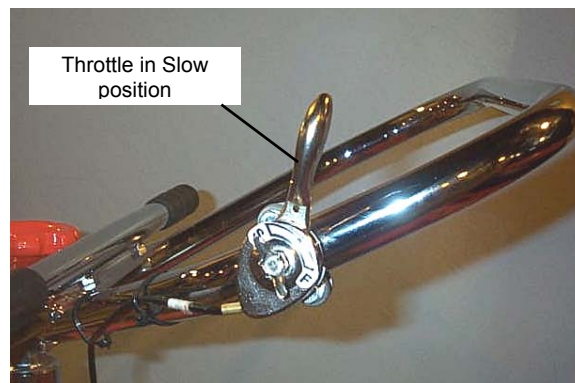

Figure 8-B
- Move the throttle (on the left side of the handlebar) to S (slow). Note the throttle location on the left side of the handlebar in Figure 8-B. We have changed the location after the cover photo was taken.